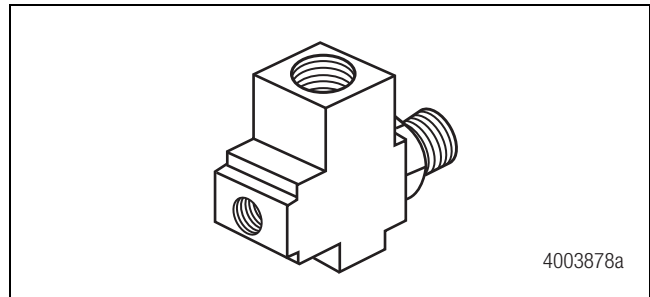

Figure 1.20
**ECON Valve:** This valve must be installed if System Saver 1200 Series air dryers NOT DESIGNATED E are used with Holset E-type compressors. This valve is not required on System Saver 1200 E air dryers. Figure 1.20.